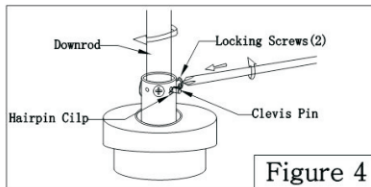

Figure 4
- Thread downrod into the downrod support on top of the motor. Install the clevis pin by aligning the hole in the downrod support with holes in the downrod. Secure clevis pin with hairpin clip. Tighten the two setscrews with in the downrod support. (Figure 4)